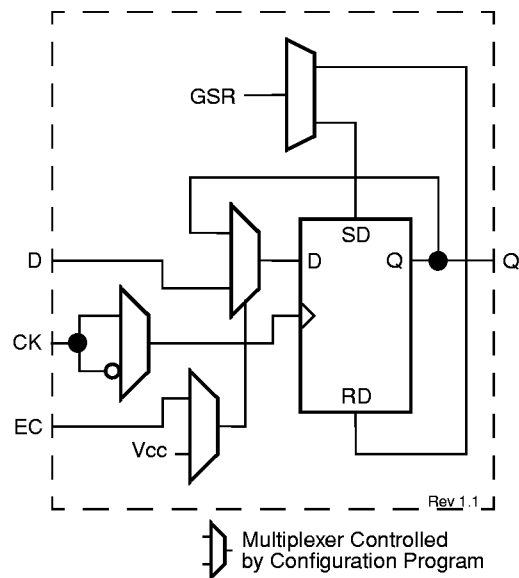
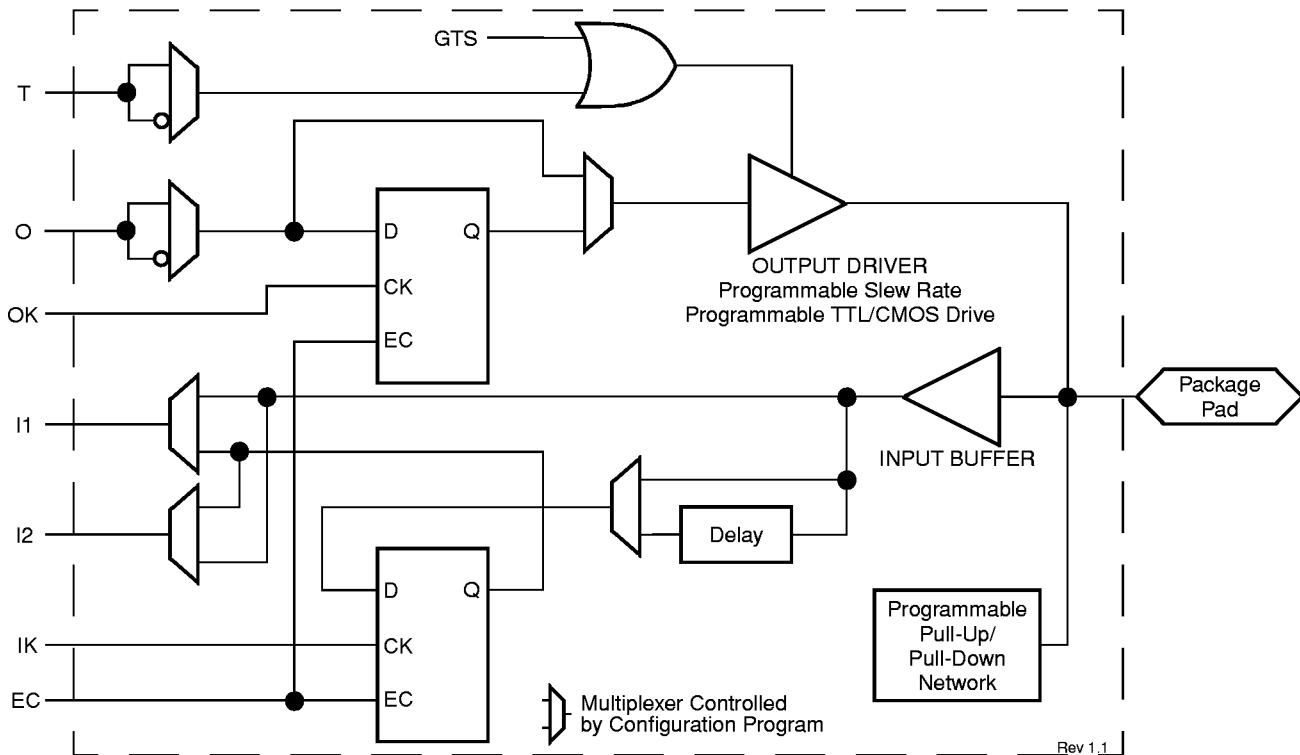

Figure 6: IOB Flip-Flop/Latch Functional Block Diagram
Figure 5: Simplified Spartan IOB Block Diagram
User-configurable input/output blocks (IOBs) provide the interface between external package pins and the internal logic. Each IOB controls one package pin and can be configured for input, output, or bidirectional signals. Figure 5 on page 8 shows a simplified functional block diagram of the Spartan IOB.
The input signal to the IOB can be configured to either go directly to the routing channels (via I1 and I2 in Figure 5) or to the input register. The input register can be programmed as either an edge-triggered flip-flop or a level-sensitive latch. The functionality of this register is shown in Table 3, and a simplified block diagram of the register can be seen in Figure 6.
The register choice is made by placing the appropriate library symbol. For example, IFD is the basic input flip-flop (rising edge triggered), and ILD is the basic input latch (transparent-High). Variations with inverted clocks are also available. The clock signal inverter is also shown in Figure 6 on the CK line.
The output of the input register goes to the routing channels (via I1 and I2 in Figure 5). The I1 and I2 signals that
An active-High 3-state signal can be used to place the output buffer in a high-impedance state, implementing 3-state outputs or bidirectional I/O. Under configuration control, the output (O) and output 3-state (T) signals can be inverted. The polarity of these signals is independently configured for each IOB (see Figure 5 on page 8).
As with the CLB registers, the GSR signal can be used to set or clear the input and output registers, depending on the value of the INIT attribute or property. The two flip-flops can be individually configured to set or clear on reset and after configuration. Other than the global GSR net, no user-controlled set/reset signal is available to the I/O flip-flops (Figure 6). The choice of set or reset applies to both the initial state of the flip-flop and the response to the GSR pulse.
The input and output flip-flops in each IOB have a common clock enable input (see EC signal in Figure 6), which through configuration, can be activated individually for the input or output flip-flop, or both. This clock enable operates exactly like the EC signal on the Spartan Series CLB. It cannot be inverted within the IOB.